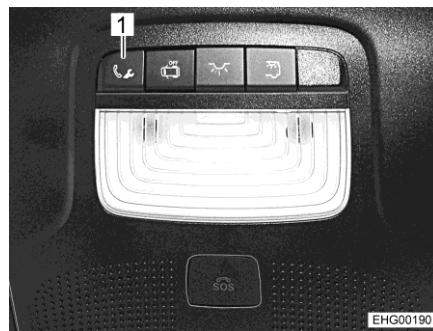

Fig. 7 Button for the call for breakdown assistance
- Press the button (Fig. 7,1) for the call for breakdown assistance. A call to the Mercedes-Benz customer centre is initiated.